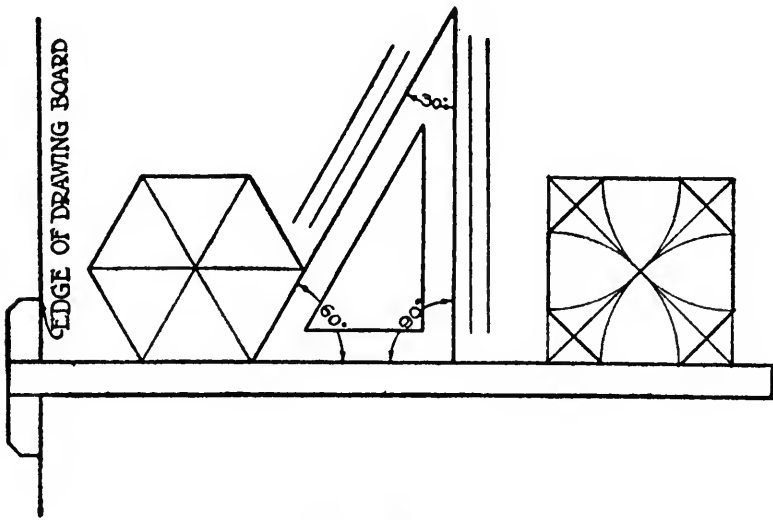

Fig. 12.
- (5) Find out how to construct a regular hexagon.
- (c) When the distance across the flats is given;Learn the draftsman's method (see Fig. 12); the method of "Euclidian" geometry; the method of the carpenter who uses his steel square. Ask some good mechanic to help you.
- (6) Find how to construct a regular octagon when the problem presents itself in each of the ways mentioned in the case of the hexagon.
Note the solution given in Fig. 12.